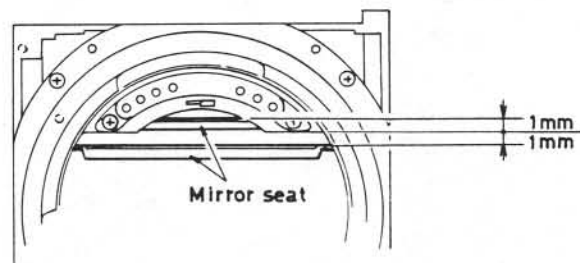
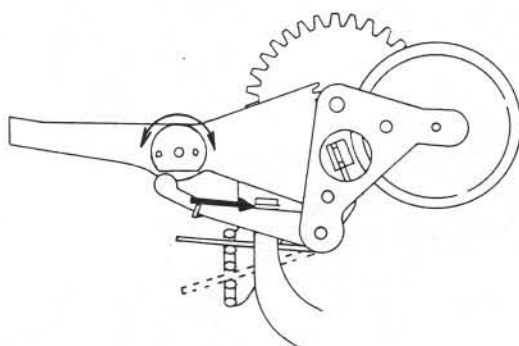

Fig. 29
Fig. 30
3. Turn the eccentric screw as shown in Fig. 30 so that the mirror brake starts working in the range as shown in Fig. 29.
3. Make sure that there is the gap as shown in Fig. 30.